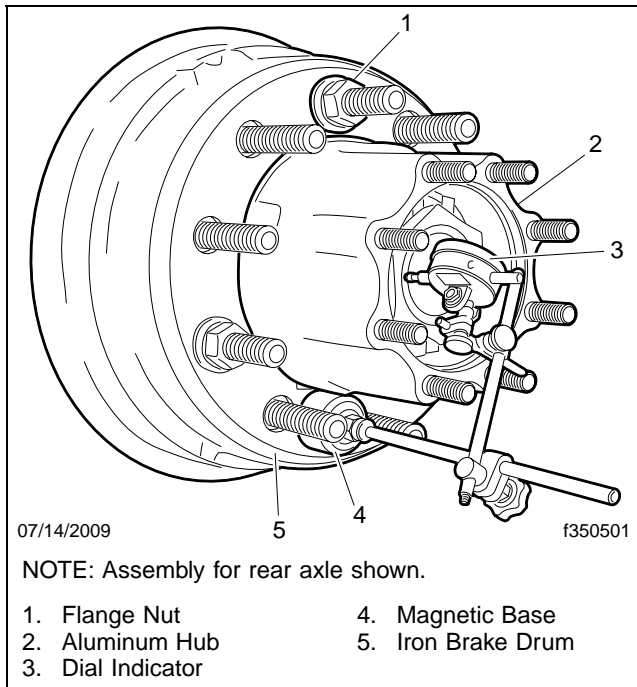

Fig. 21, Dial Indicator Setup, Aluminum Hub with Iron Brake Drum (rear hub shown)
- 7.3 Attach the magnetic base of a dial indicator to the drum (or, on vehicles equipped with iron hubs, the hub). See **Fig. 21**.